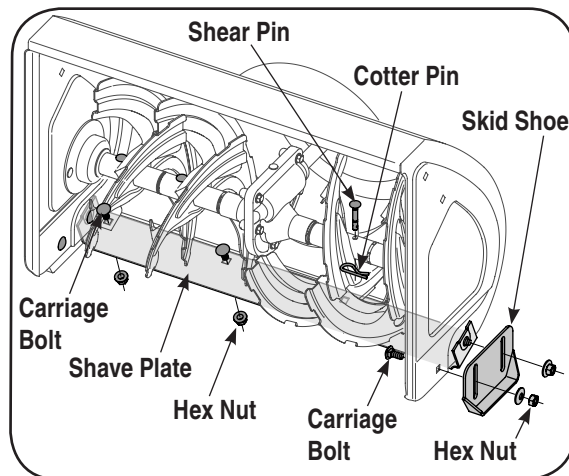

Figure 9
1. To replace, remove two carriage bolts and hex nuts securing each skid shoe to the auger housing. See Fig. 9
3. **To remove shave plate:** Remove both skid shoes and hardware including carriage bolts, and hex nuts which attach shave plate to the snow thrower housing. For location of shave plate, see Figure 9.
The augers are secured to the spiral shaft with four shear pins and cotter pins. If you hit a foreign object or ice jam, the snow thrower is designed so that the pins may shear. Refer to Figure 9.